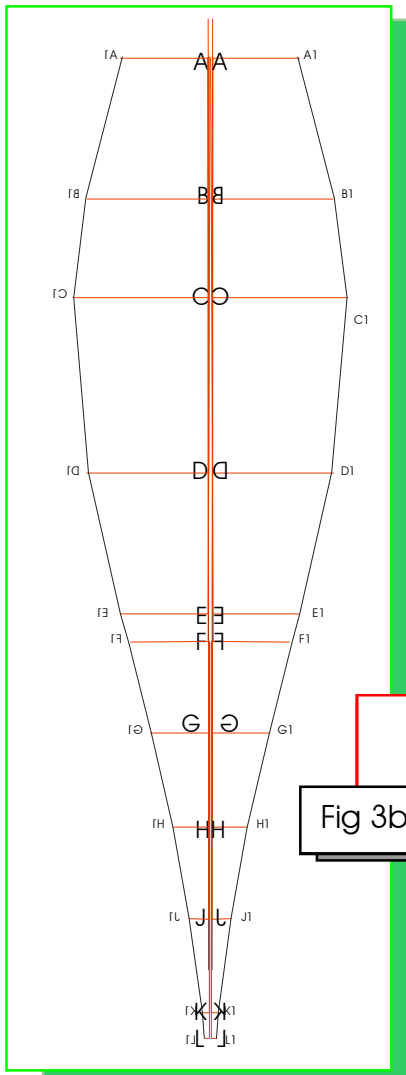

Fig 3b
- 39) You now have a half segment, to create a full segment copy the drawing and join the lines A >L. See Fig. 3b